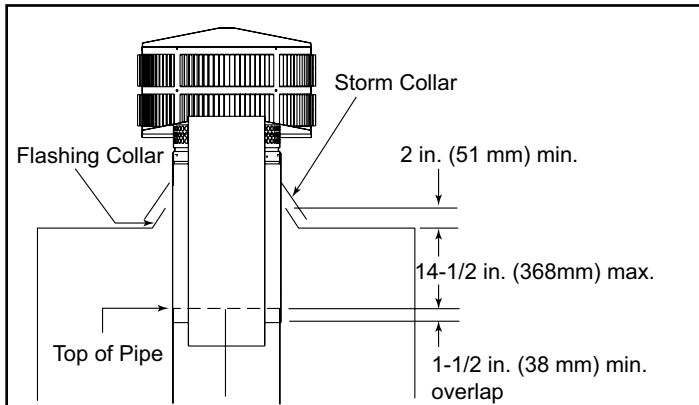

Figure 30.1 Installing a TR342 Round Telescoping Termination Cap
- For installations utilizing a Round Telescoping Termination Cap, the uppermost chimney section must be below the top of the chase top, but not more than 14-1/2 in. (368 mm) below the top of the chase top. Minimum overlap of chimney and termination cap must be 1-1/2 in. (38 mm). See Figure 30.1 on page 30.
- For installations utilizing a Round Telescoping Termination Cap, the uppermost chimney section must be below the top of the chase top, but not more than 14-1/2 in. (368 mm) below the top of the chase top. Minimum overlap of chimney and termination cap must be 1-1/2 in. (38 mm). See Figure 30.1.